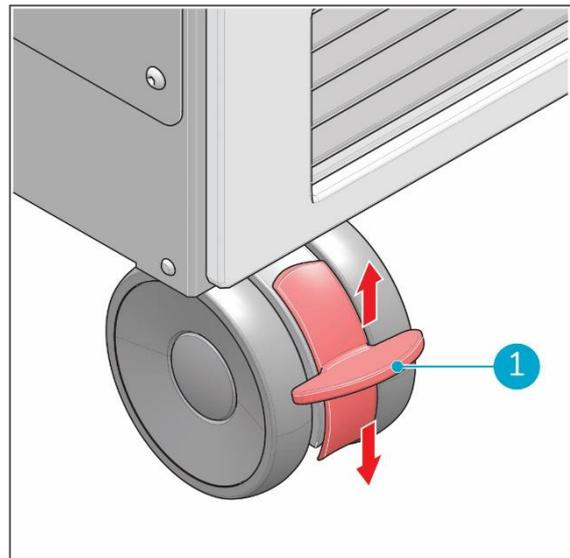

Figure 5
Always place the ICon Pro in an upright position. Once correctly placed on location, always lock the brakes on the front and rear caster wheels (Figure 5, pos. 1) when the ICon Pro is in operation.